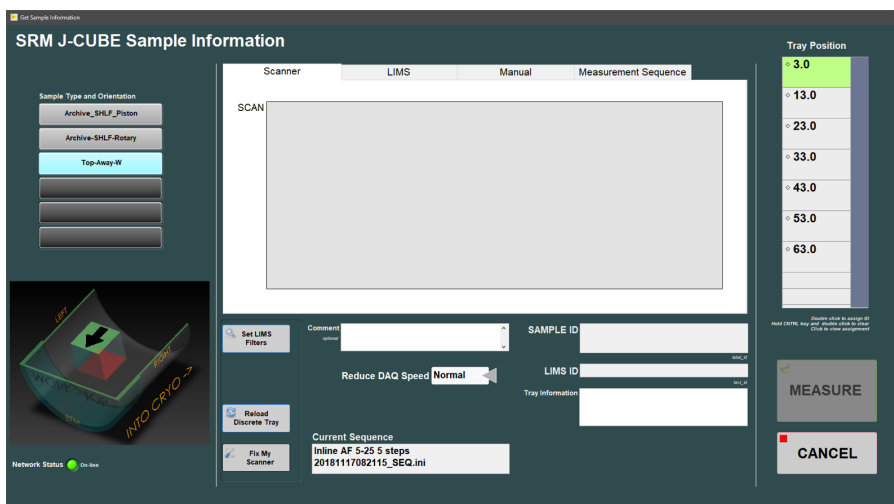

Figure 24- Sample Information Window: Discrete Scanner Entry
- **Scanner** mode: Place cursor in the scan box and scan the discrete cube label (**Figure 24**). The sample will be immediately assigned to the tray position highlighted on the right side of the screen.